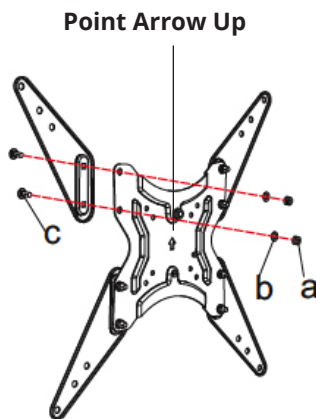

Figure 5A
1. Position the VESA Plate with the arrow pointing up, see **Figure 5A**.
2. Install the VESA Plate Extender to the VESA Plate in the position shown, see **Figure 5A**.
3. Use **Bolt (c)**, **Washer (b)** and **Nut(a)** and fully tighten by turning the nut clockwise with a wrench to secure the VESA Plate Extender to the VESA Plate, see **Figure 5A**.